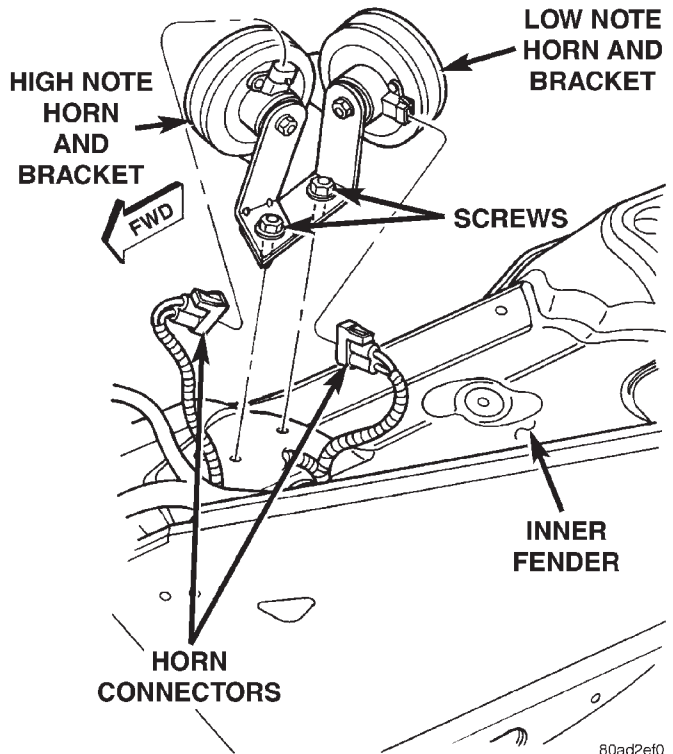

Fig. 4 Horns Remove/Install
- (1) Disconnect and isolate the battery negative cable.
- (2) Disconnect the wire harness connectors from the horn connector receptacles (Fig. 4).
- (3) Remove the two screws that secure the horn and mounting bracket units to the left front inner fender shield.
- (4) Remove the horn and mounting bracket units from the left front inner fender shield.